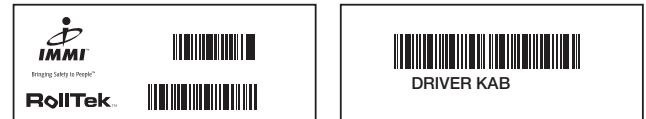

Figure 2
1. Locate the product identification labels on driver knee airbag system (A103303). See **Figure 2**.